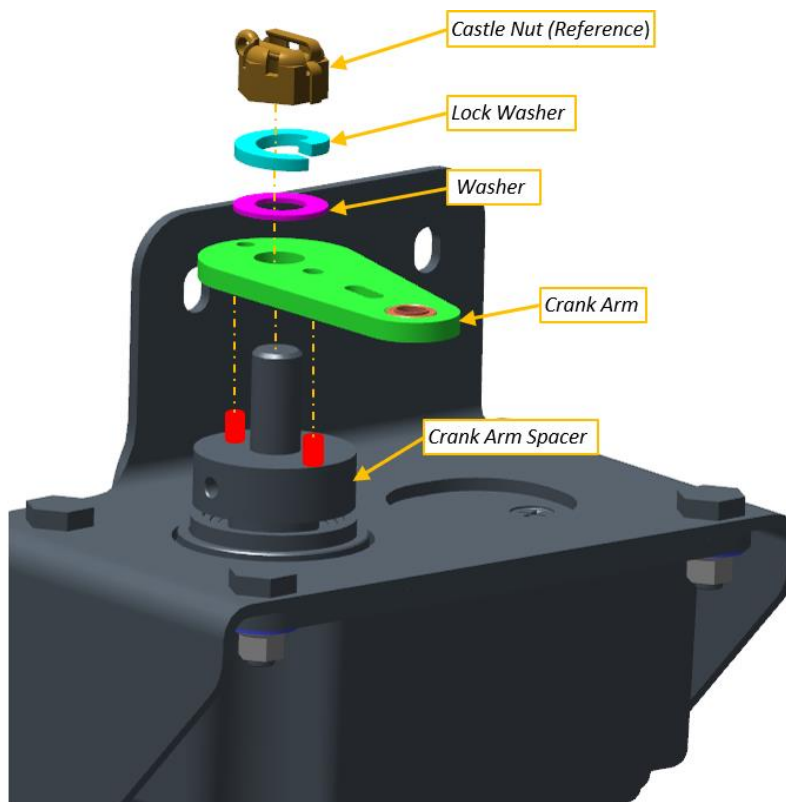

*Figure 5 Pitch Servo Clamp*
3. Remove the 4x nuts (MS21043-3), 4x bolts (AN3C3A), and 4x washers (NAS1149C0332R) from the pitch servo bracket (see Figure 5)